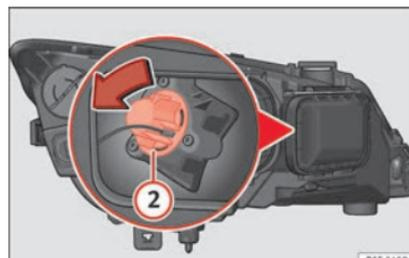

Fig. 106 Turn signal bulb.
- Turn the bulb holder » Fig. 106 ② anti-clockwise and pull.